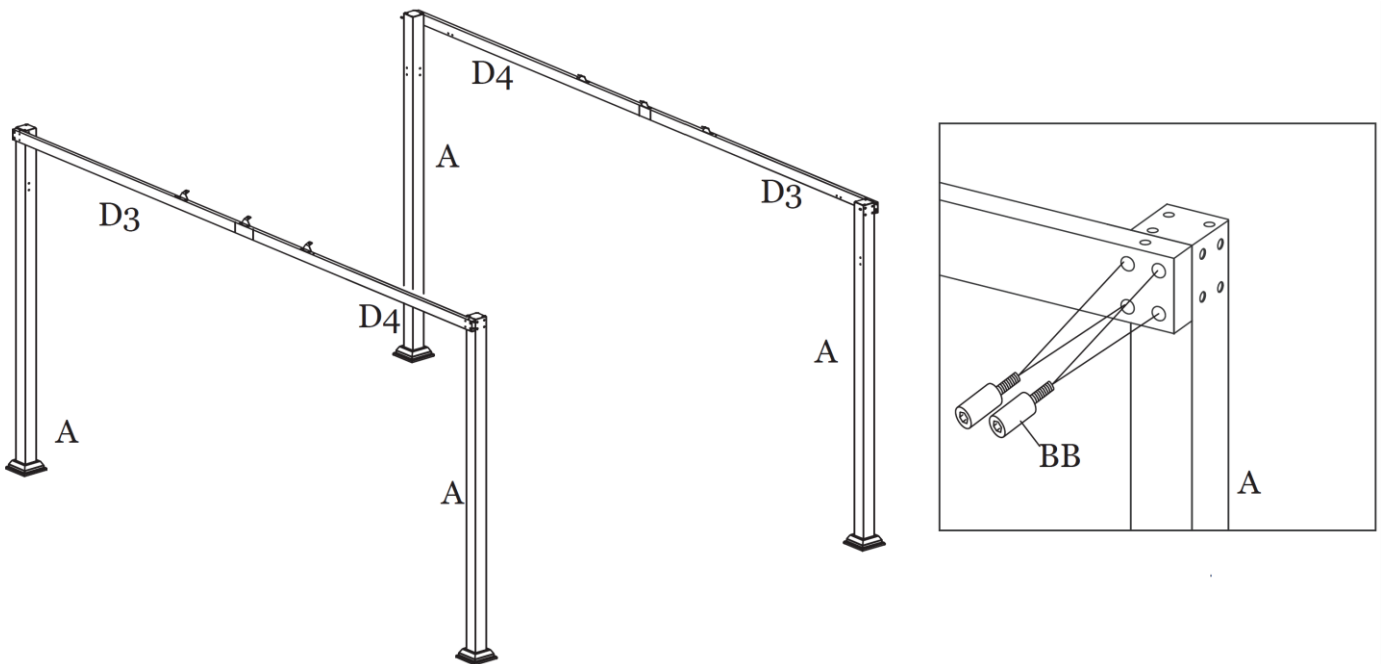

Figure 4
Step 4: Attach Long Lintels (D3 and D4) to the outside of Corner Post (A) using Bolts (BB). See Figure 4. **Tighten all Bolts.** Repeat for opposite side Long Lintels (D3 and D4) and Corner Posts (A).